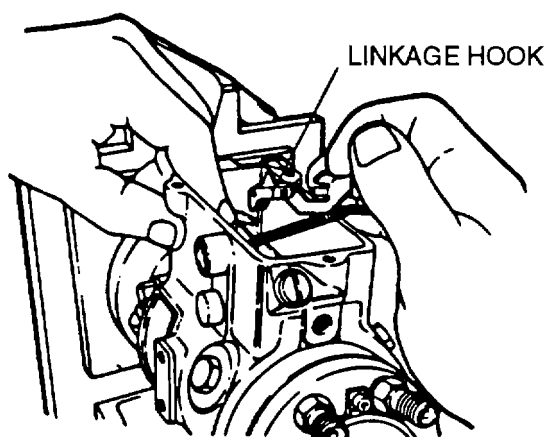

FIGURE 3-68. Disengaging Governor Linkage (Typical)
- t. Place linkage hook assembly over side of housing, refer to FIGURE 3-68.